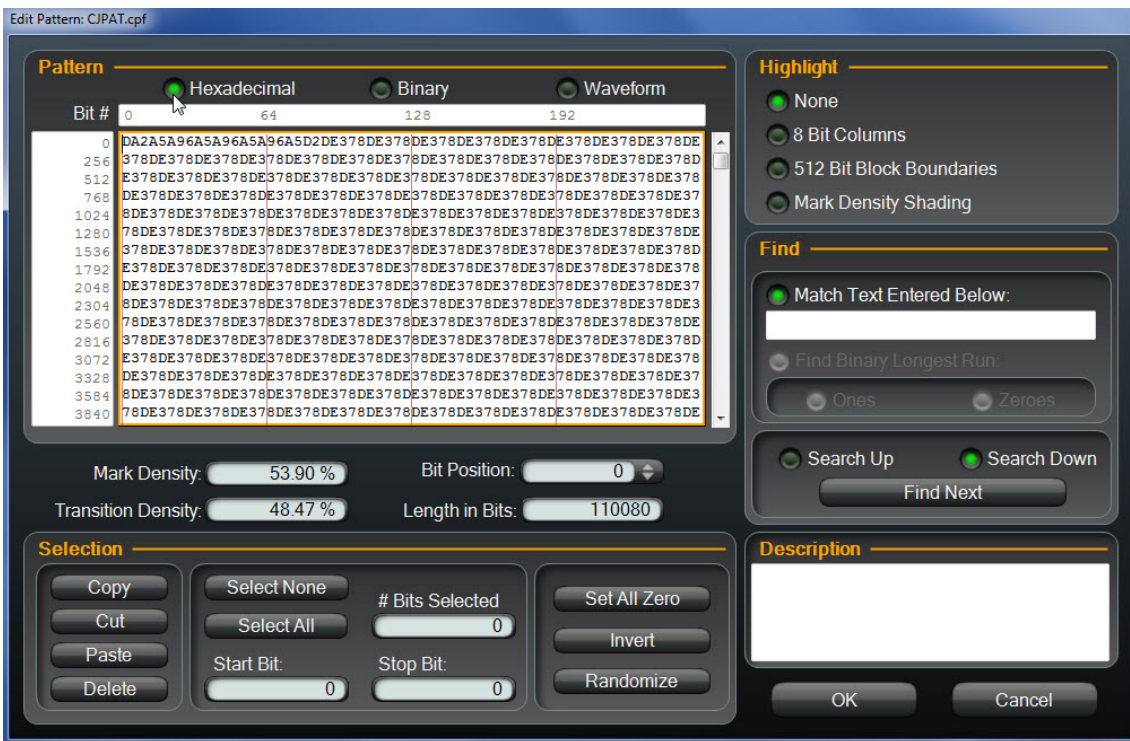

Figure 81. Hexadecimal view
1. To view the pattern in hexadecimal, select **Hexadecimal** as shown in Figure 81.